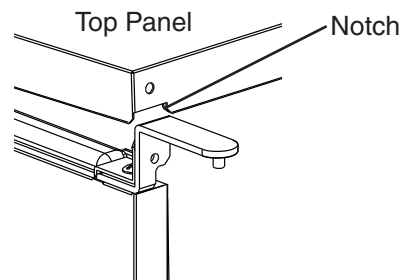

**Fig. 5**
- c) Remove hinge (A)-right and the bracket from the right side of the appliance. Set aside hinge (A)-right; it is not needed. Remove the top brace from the left side. Fasten hinge (A)-left and the bracket to the left side and the top brace to the right side. See Fig. 5.